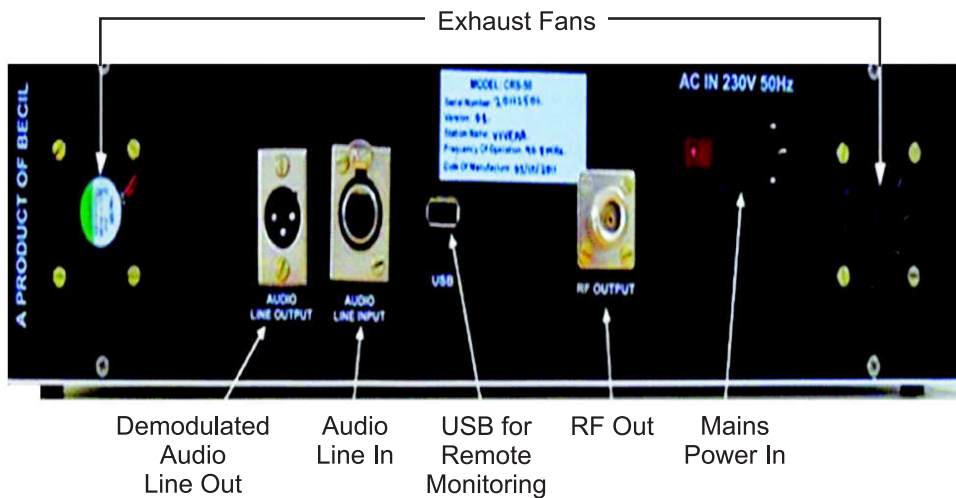

Figure 27.2: Back panel view of 50 Watt FM transmitter (BECIL CRS -50)
Figure 27.2 illustrates the back panel connectors of a typical 50 Watt FM transmitter (BECIL CRS-50).
Looking into the Figure 27.2, you should note that XLR (F) connector has been provided for 'Audio Line In' whereas XLR (M) connector has been provided for demodulated audio output. This demodulated output is provided for monitoring and measurement purposes. Also note that for RF output, N (F) type of connector has been provided. USB connector has also been provided in this transmitter for remote metering and monitoring purpose.